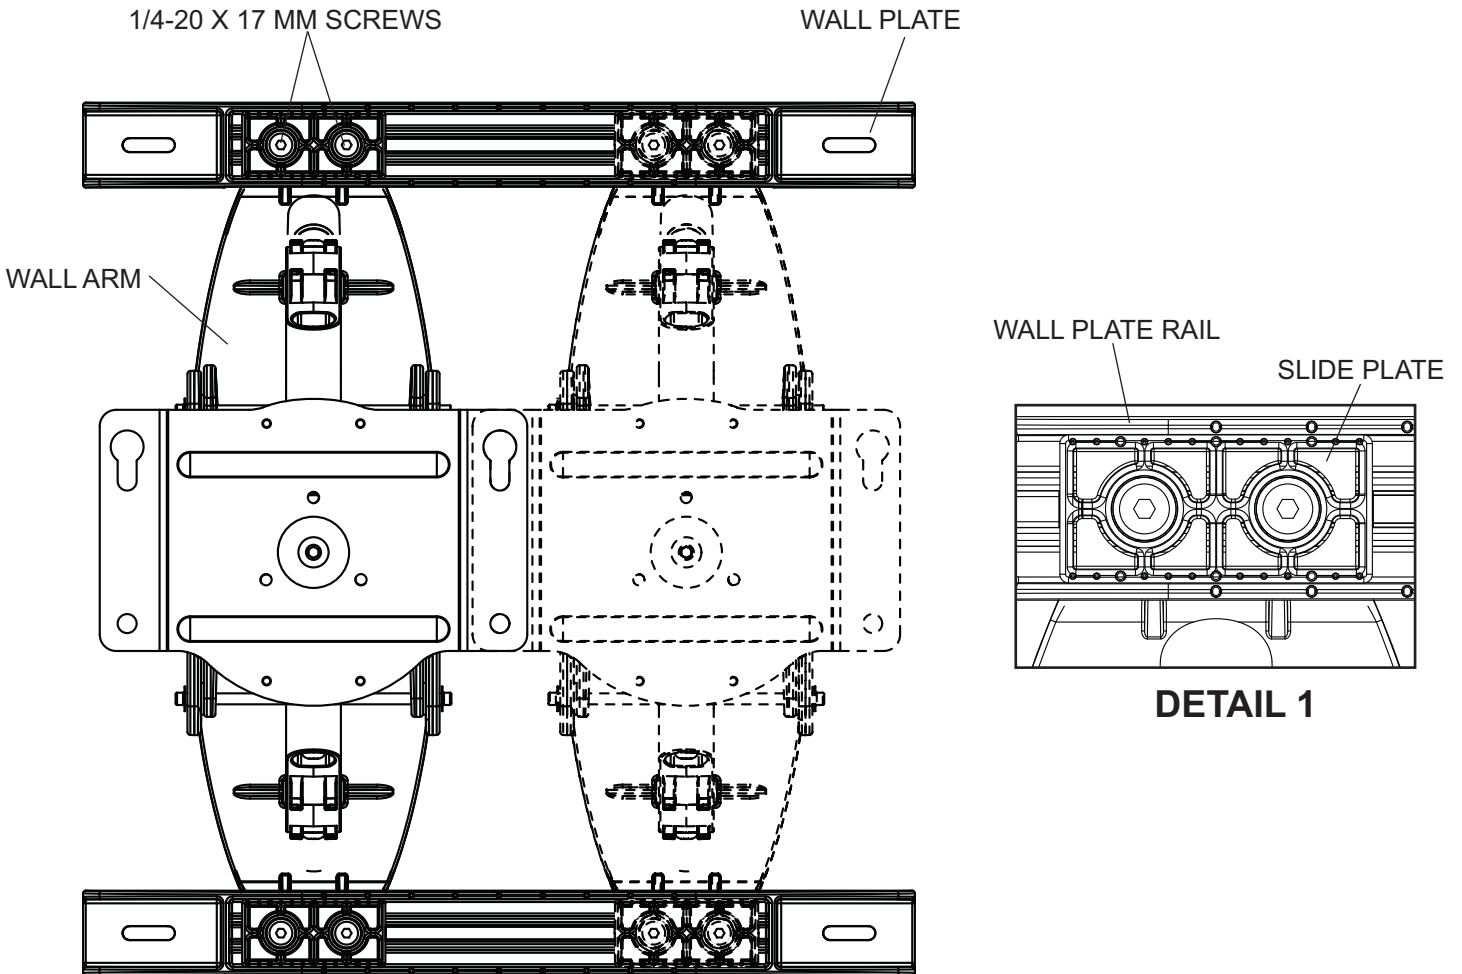

fig. 1.1
Measure the distance from the center of wall arm (A) to desired screen center. Loosen four 1/4-20 x 17 mm screws using 5 mm allen wrench (I). Slide wall arm assembly 4-1/2" to the left or right as shown in figure 1.1. **NOTE:** Align bevels (dots) of slide plate with bevels (dots) of wall plate rails as shown in detail 1 then retighten 1/4-20 x 17 mm screws.